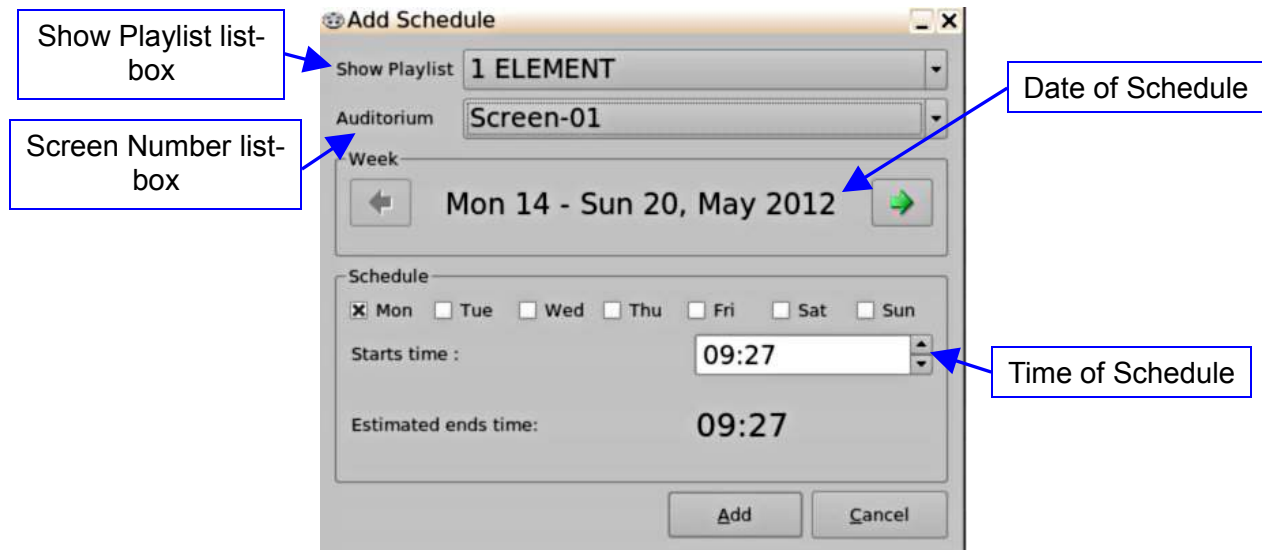

Figure 8: Add Schedule Window
- The following window will appear (Figure 8):